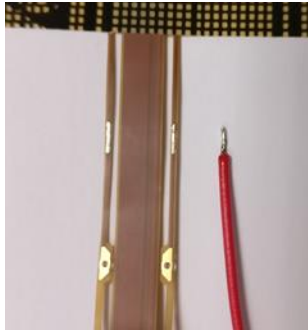

Figure 46: Solder applied to solder pad and GND/REF wire separately.
- Apply some solder to the solder pad and GND/REF wire separately. (Figure 46)